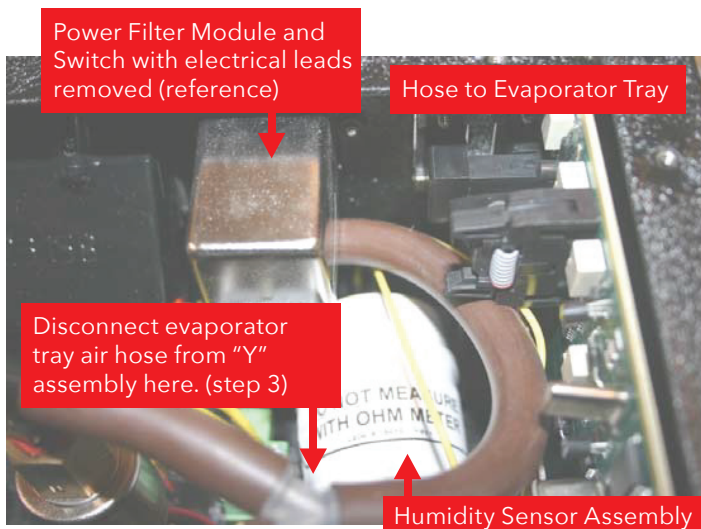
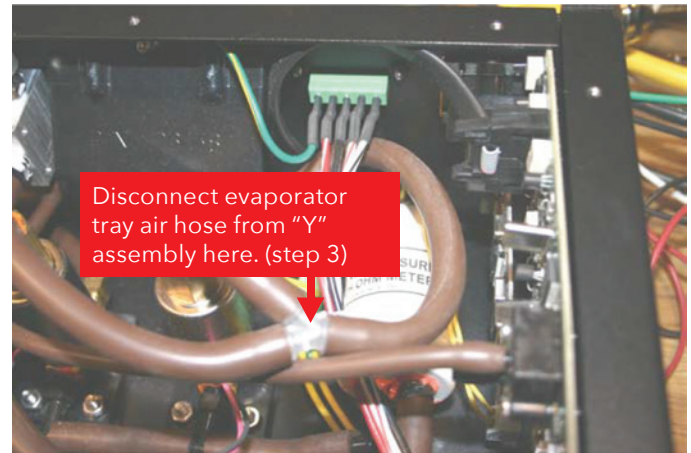

Figure 1a. THE ADH NETCOM AUTOMATIC AIR DEHYDRATOR HUMIDITY SENSOR ASSEMBLY IN AN AC UNIT.
Figure 1b. THE ADH NETCOM AUTOMATIC AIR DEHYDRATOR HUMIDITY SENSOR ASSEMBLY IN A DC UNIT.
On AC units, it might be useful to move the power filter module and switch assembly out of the way for better access to the humidity sensor during this procedure. Refer to Figure 1a. To do so, from the inside of the machine, after first noting their placement, carefully disconnect the three electrical leads from the filter module. Do not separate the leads from the spade lugs. Then, from the back of the machine, unscrew the two screws securing the power filter module to the machine chassis then gently push the power filter module toward the back of the dehydrator. It is not necessary to fully remove the power filter module.
To replace the Humidity Sensor Assembly (23368) in either an ADH NETCOM Automatic Air Dehydrator with AC power or an ADH NETCOM with Redundant DC power, perform the steps below. Refer to Figure 1a or 1b, respectively, for AC and DC unit illustrations.
1. Shut off AC unit power by placing the power switch in the OFF (O) position. Unplug the power cord. Shut off DC unit power by shutting off the external power supply. If possible, move the unit to a work table.
3. Using a tubing wrench or vacuum tubing pliers, carefully disconnect from the "Y" hose assembly the length of hose running between the "Y" assembly and the evaporator tray. Refer back to Figure 1a for AC units and Figure 1b for DC units.